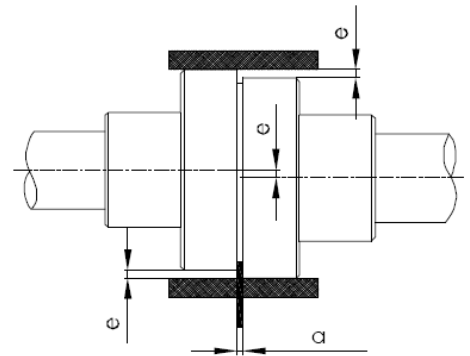

Fig. 3. Aligning a flexible coupling
- To control parallel sliding error, straight edged steel ruler is pressed down on one half of the coupling in parallel to the axis. It is checked against the other half. Straight edge must touch to the both half couplings completely same at all points in each vertical and horizontal planes (*Fig.3*).